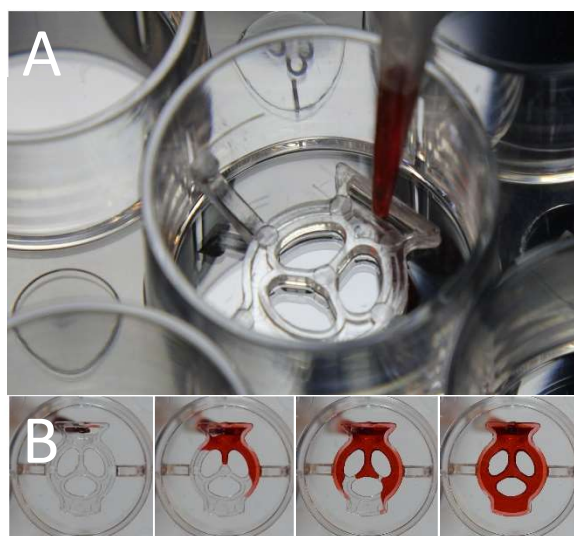

Figure 3: Pipet neutralized collagen solution (red). A) Top view of pipet tip in pipet slot. B) Bottom view of device filling at 4 sequential time points.
- Load 35 μ L of neutralized Col I to the devices through the loading port on each device (see **Figure 3 in Protocol A** for the location of the loading port).